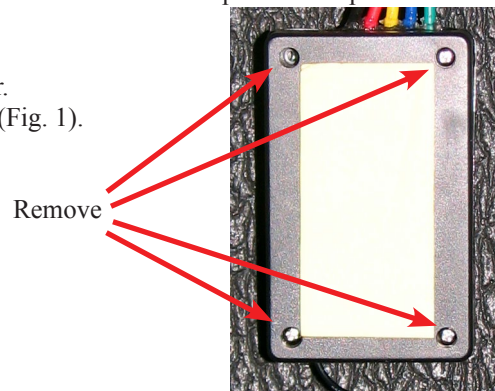

Fig. 1
- 2) Remove the four philips head screws holding the RES enclosure together (Fig. 1).